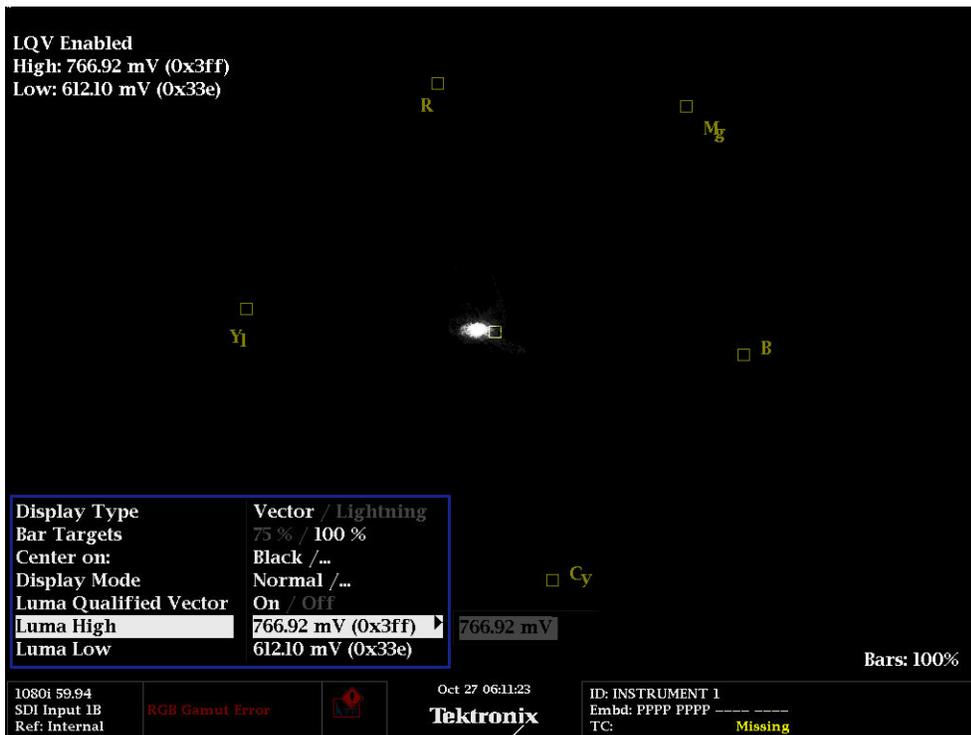

Figure 3. LQV Range Menu
3. Next Depress and Hold the Vector Button to display the Menu as shown in Figure 3 and use the up/down selection keys to select the Luma Qualified Vector and then use the Right Arrow Key to set this to the ON position.